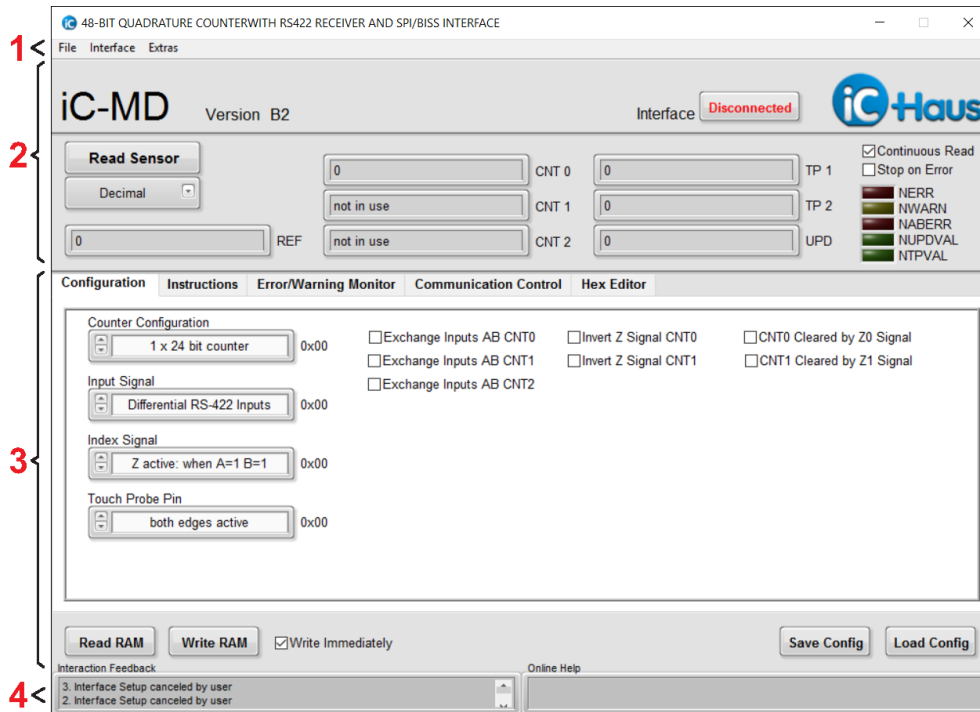

Figure 3: GUI start-up window
3. Installation will make the software "MD1SO\_gui\_xx.exe" available in the selected working directory. The execution of this file will start the software. Figure 3 shows a screenshot of the start up window.